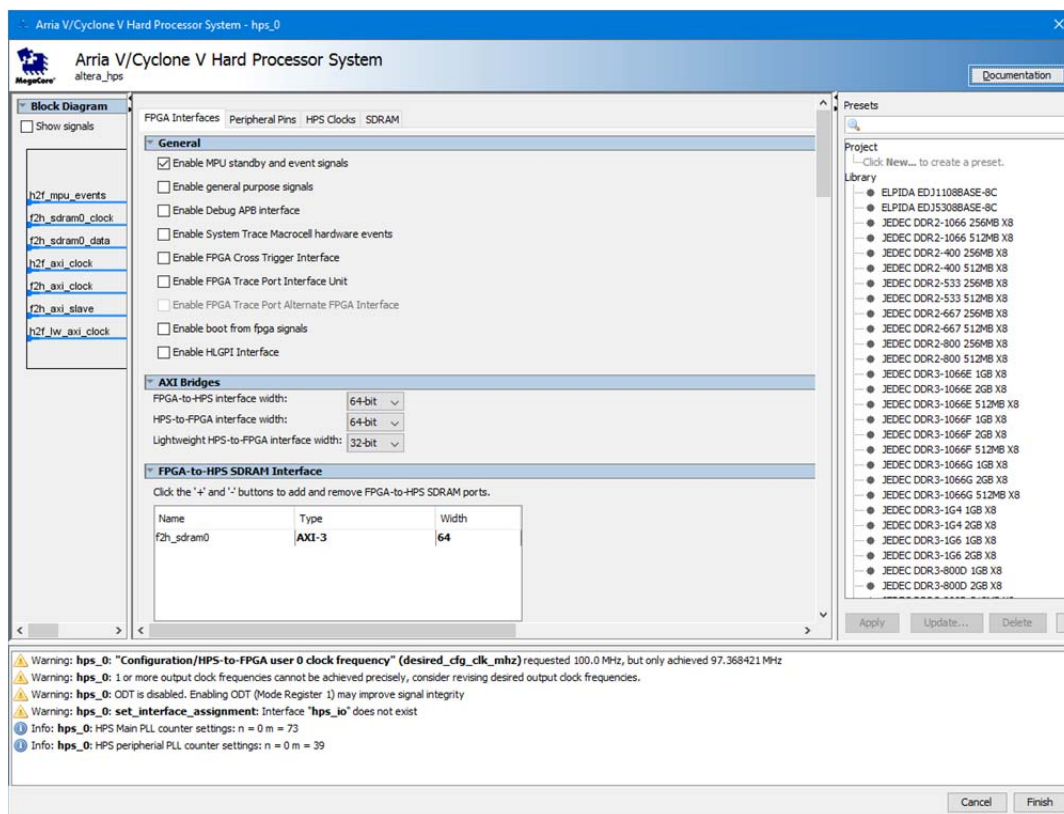

Fig. 20: HPS Component Parameters
1. To use the HPS, add an “Arria V/Cyclone V Hard Processor System” to the system. In the IP catalog select it in the “Processor and Peripherals->Hard Processor Systems”. This opens a window allowing to select the HPS’ parameters. There are four tabs that control various aspects of the HPS’ behaviour, as shown in Fig. 20.